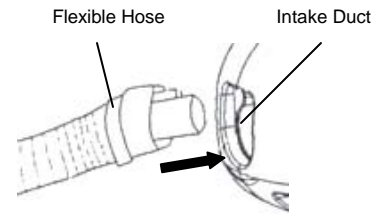

Fig. 1
1. Insert the flexible hose into the air intake duct. Push in until you hear a 'click', indicating that flexible hose is locked into place. (Fig. 1)